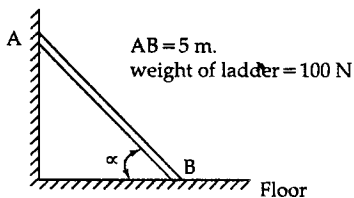

Fig. 6
4. (a) A ladder weighing 100 N rests as shown in fig.6. Find the minimum angle α at which ladder will start slipping. The static friction Co-efficients at A and B are 0.2 and 0.3 respectively.